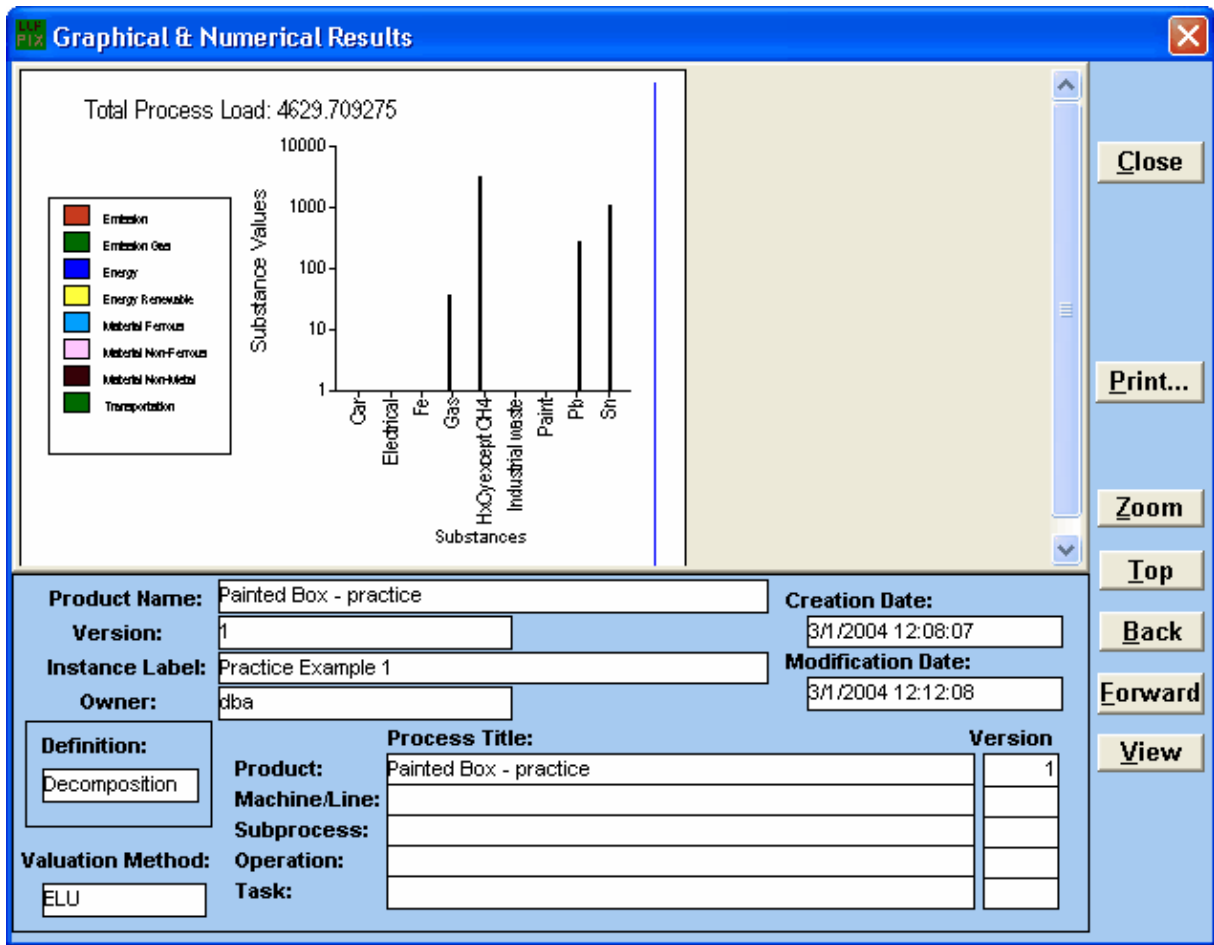

Figure 16: Top level screen showing the results of the valuation of the Product "Painted Box - Practice Example" and the Instance "Practice Example 1".
11. It will bring up a window as show in Figure 16 that contains the results.